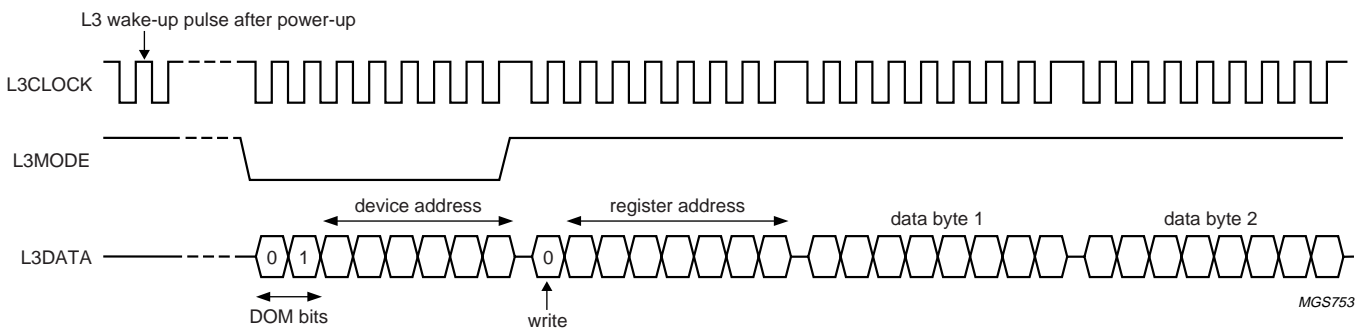

Fig.5 Data write mode (for L3-bus version 2).
The address mode is used to select a device for a subsequent data transfer. The address mode is characterized by L3MODE being LOW and a burst of 8 pulses on L3CLOCK, accompanied by 8 bits (see Fig.5).
Remark: when the device is powered-up, at least one L3CLOCK pulse must be given to the L3-bus interface to wake-up the interface before starting sending to the device (see Fig.5). This is only needed once after the device is powered-up.
1. Addressing for write data: bit 0 is logic 0 indicating a write action to the destination register, followed by bits 1 to 7 indicating the register address (see Fig.5)
The data write mode is explained in the signal diagram of Fig.5. For writing data to a device, 4 bytes must be sent (see Table 6):